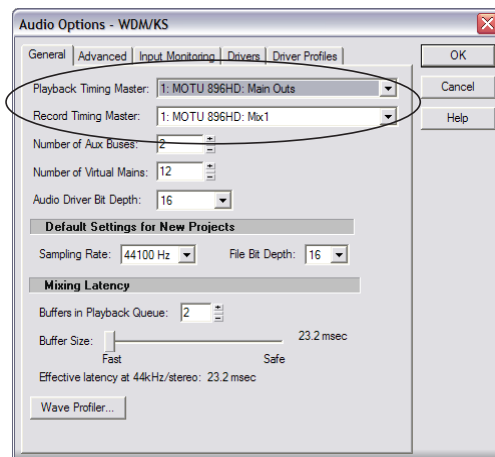

Figure 7-3: Make sure you have chosen a 896HD input and output for the playback and recording timing master settings.
- 2 Choose a 896HD input and output for recording and playback timing as shown below in Figure 7-3. It doesn’t matter which input or output you choose.
In the Audio Options window (Figure 7-3), be sure to choose enough *Virtual Mains* in the *General* tab to cover the 18 channels of input and 22 channels of output provided by your 896HD — although the number of channels may depend on how your 896HD is configured: